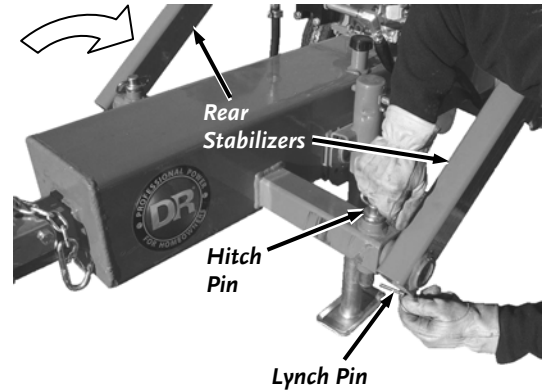

Figure 28
13. Remove the Hitch Pins of the Rear Stabilizers and rotate them into their upright position until the holes are aligned (**Figure 28**).